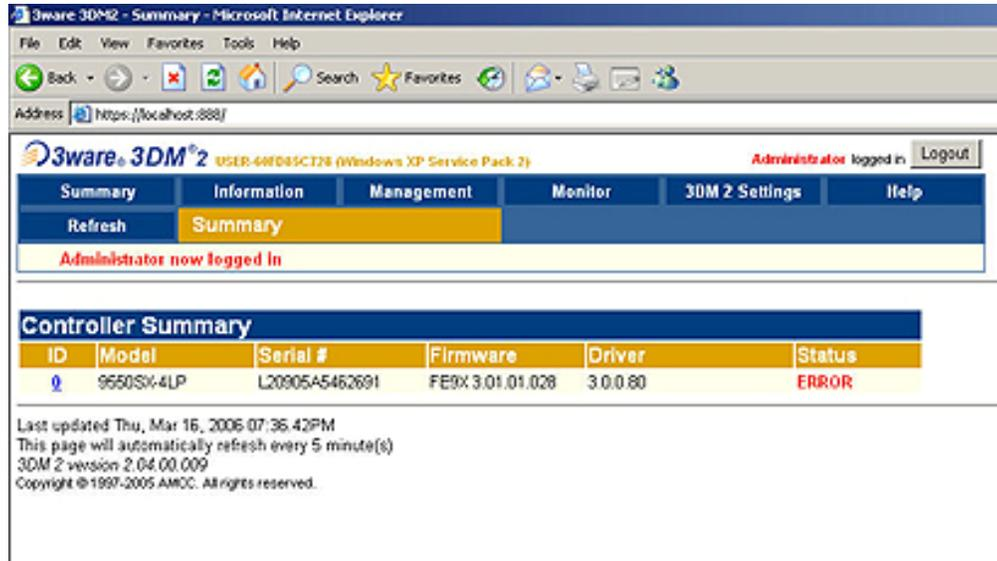

Figure 2-33
- 7) After you have logged in as the administrator, you will see a status of **ERROR** in the 3DM 2 interface (Figure 2-33).